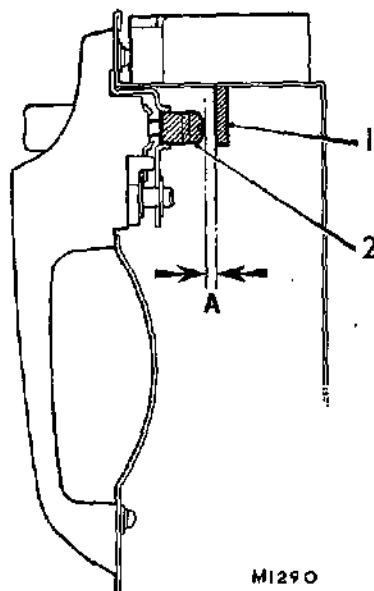

Fig. Rb.3
This is preset during manufacture to provide free button movement before the latch contactor (1) begins to operate and release from the striker before full depression (see Fig. Rb.3). However, if further adjustment of the plunger screw is required proceed as detailed below:
- (5) Remove the exterior door handle (see Section Rb.6).
- (6) Adjust the plunger screw and ensure that when the handle is refitted there is a clearance of approximately $\frac{1}{16}$ to $\frac{1}{8}$ in. (1 to 1.5 mm.) between the head of the screw and the contactor mechanism.